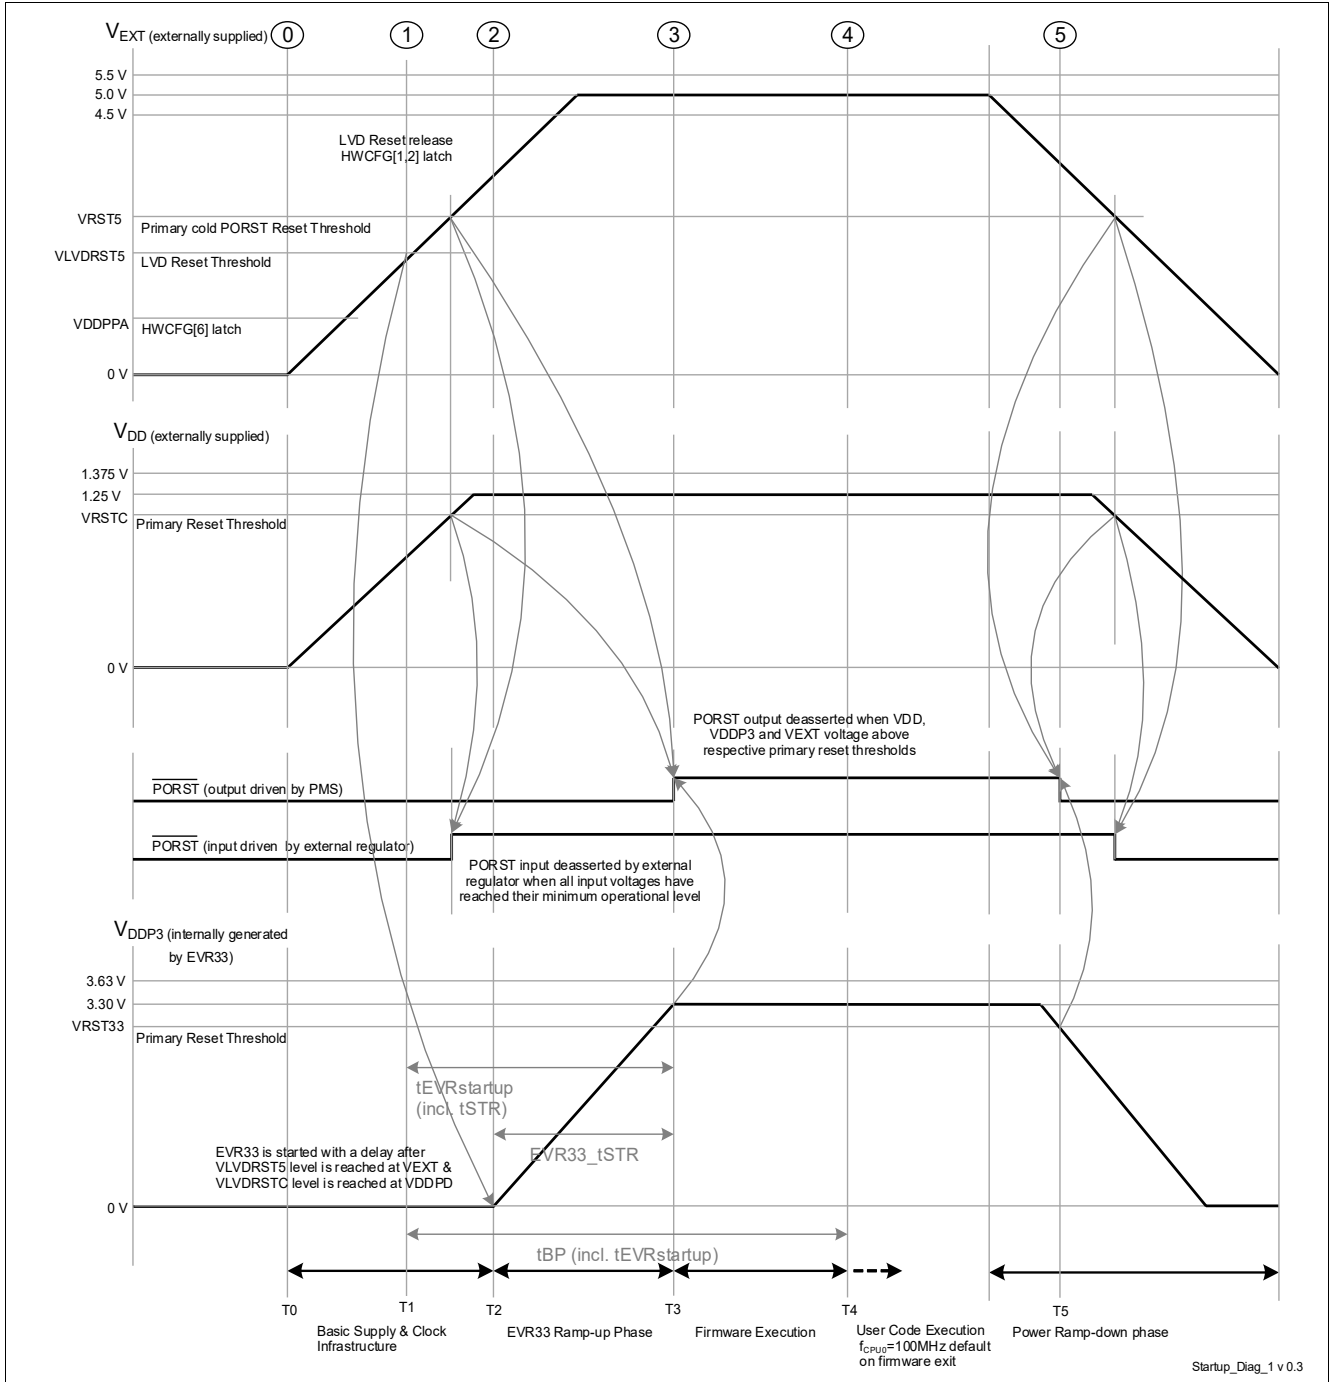

Figure 3-4 External Supply mode (d) - V_{EXT} and V_{DD} externally supplied
- The power sequence as shown in Figure 3-4 is enumerated below